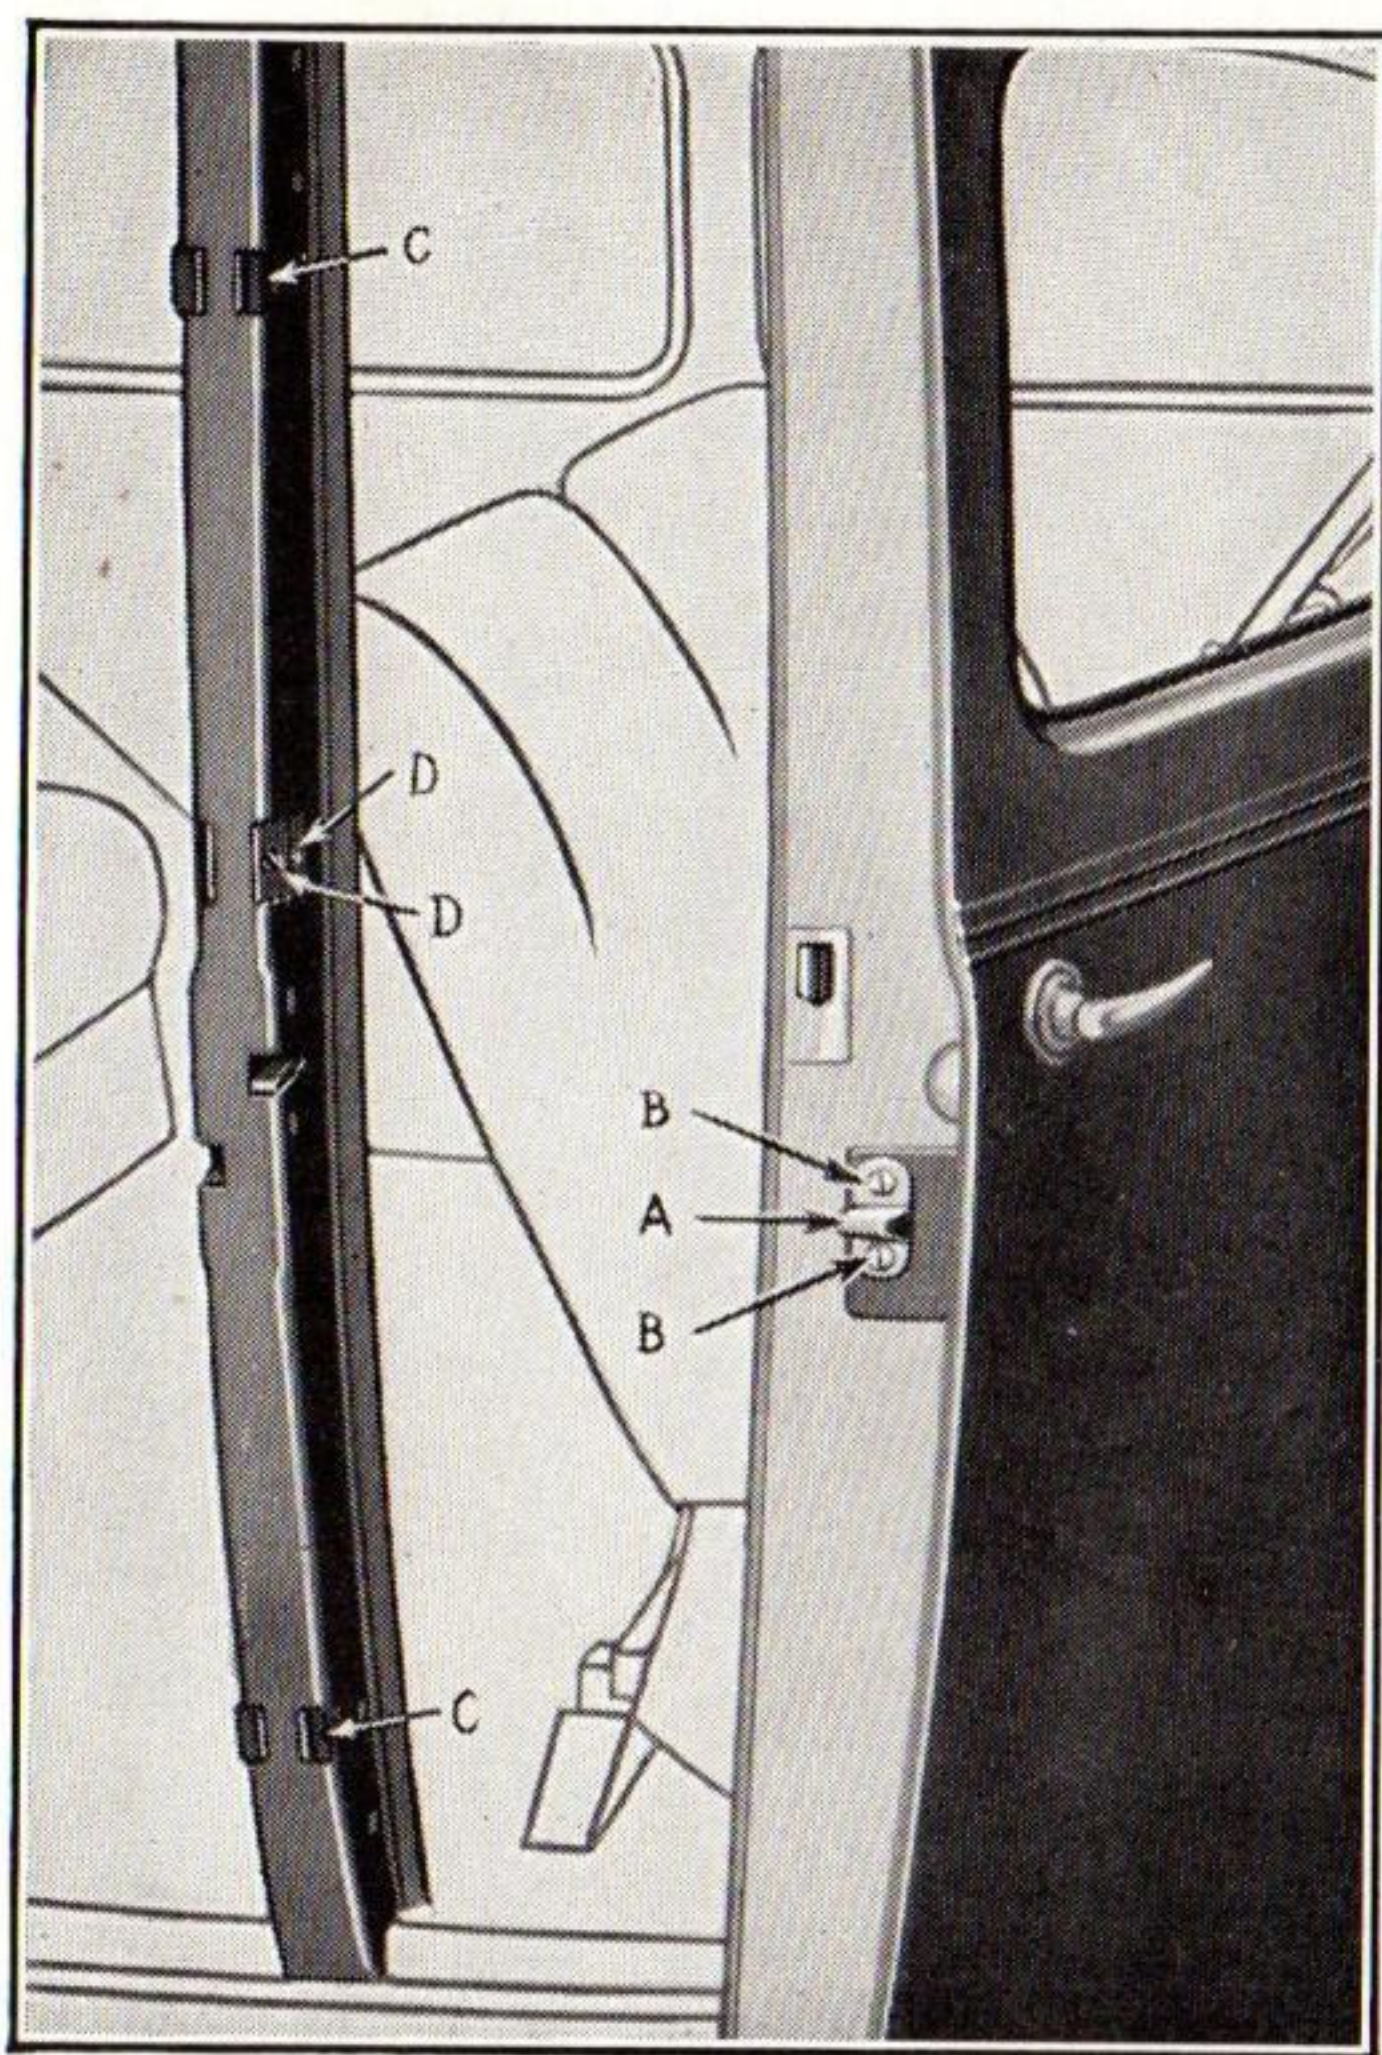

Figure 30
Door striker plates are adjustable to permit proper in and out regulation of the door position. The dovetail (male) (A), Figure 30, is adjustable to center the door up and down. The hinge pins are cadmium plated to prevent rusting and squeaking of hinges.